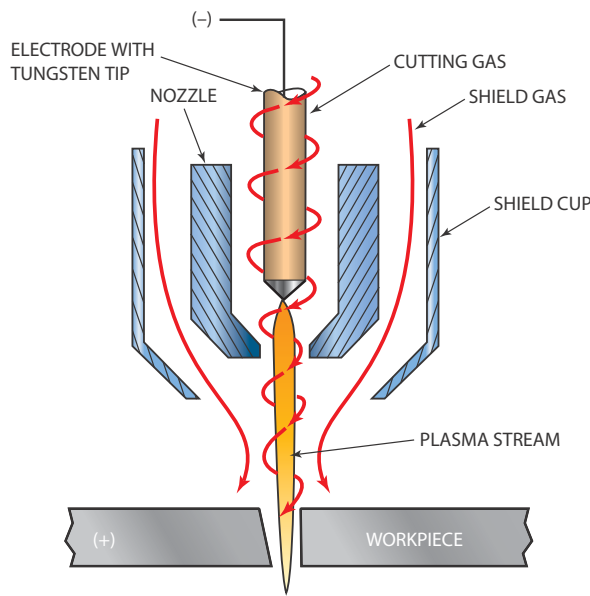

FIGURE 22-19 The cutting gas can swirl around the electrode to produce a tighter plasma column. American Welding Society
- Swirling of the plasma gas—On some torches, the gas is directed in a circular motion around the electrode before it enters the nozzle tip orifice. This swirling causes the plasma stream that is produced to be more dense with straighter sides. The result is an improved cut quality, including a narrow kerf, Figure 22-19.